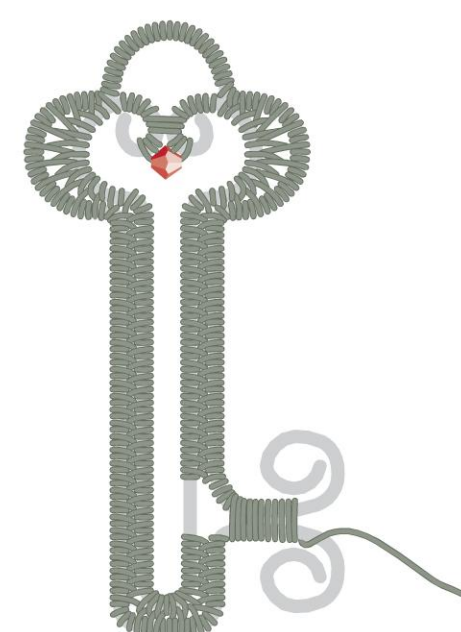

figure 19
- 34** Continue wrapping up to the beginning coil done in Step 26 (Figure 19).